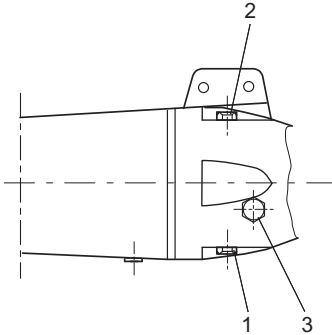

Fig. 16 Oil check and oil filling
If required, fill oil into the gearbox through the oil filling hole (pos. 2 in fig. 16). For oil quality and quantity, see section 7.3 Oil.